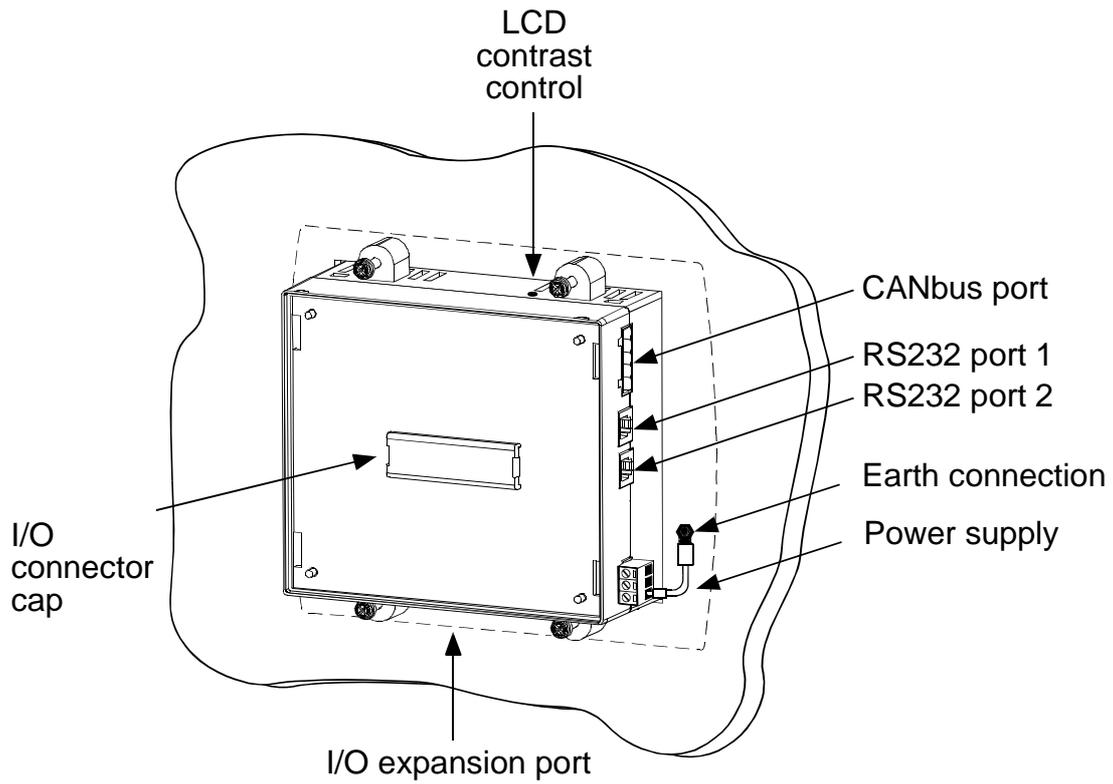
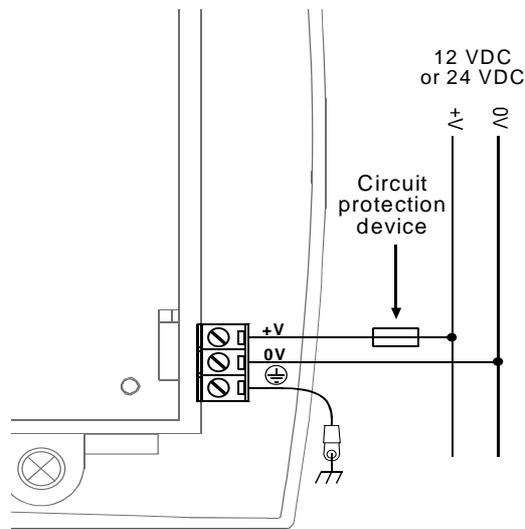

Figure 6. Panel Mounted—Rear View
Figure 7. Power Supply Wiring
To maximize system performance, avoid electromagnetic interference by mounting the controller on a metal panel and earthing the power supply according to the details in Figure 7, page 16
The controller requires an external 12 or 24VDC power supply. The permissible input voltage range is 10.2-28.8VDC, with less than 10% ripple. You must use an external circuit protection device as shown in Figure 7, page 16.
- Earthing the controller's power supply by connecting the chassis signal to the panel as shown in Figure 6, page 14, and connecting the tapered end to the power supply as shown in Figure 7 above.
1. Pry the cap, shown in Figure 6, page 14, off using the blade of a screwdriver.
An adapter enables you to integrate I/O Expansion Modules into the system. You plug an I/O expansion cable into the appropriate port located on the bottom of the controller, connect the cable to the adapter, and then plug I/O Expansion Modules into the adapter. Exact instructions are provided with the adapter and I/O Expansion Modules. The location of the I/O Expansion port is shown in Figure 6, page 14.
The RS232 interface is via RJ-11 type serial ports located on the side of the controller, shown in Figure 6, page 14.
The CANbus port is located on the side of the controller, as shown in Figure 6, page 14. Via this port, you can create a decentralized control network of up to 63 controllers. This is sometimes called a multi-master network. In such a network, CANbus enables inter-PLC data exchange.